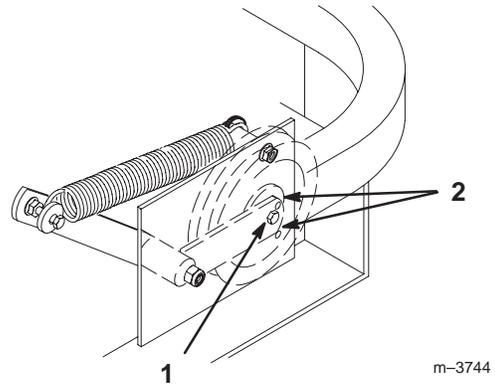

Figure 51
8. Check belt tension. The center bolt of spring loaded idler must be between the two alignment holes in left support plate (Fig 51).
10. Check belt tension again. The center bolt of spring loaded idler must be between the two alignment holes in left support plate (Fig. 51). Adjust, if necessary, and tighten all hardware securely.